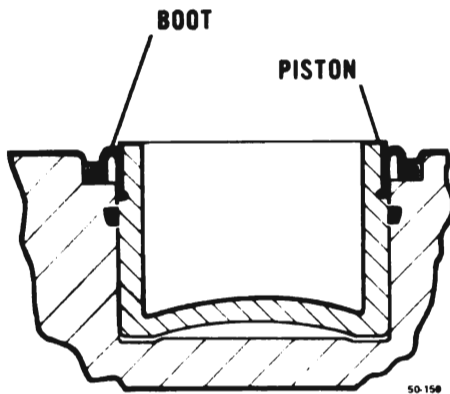

Figure 50-35--Boot Installation
2. Examine the inside of the caliper for evidence of fluid leakage. If leakage is noted, the caliper should be overhauled. Wipe the inside of the caliper clean, including the exterior of the dust boot. Check the boot for cuts, cracks or other damage. Make sure that the boot is properly engaged in the groove in the piston and also in the caliper counter-bore. See Figure 50-35.